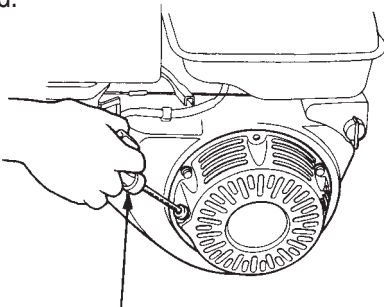

Figure 9. Starter Grip
- Pull the **starter grip** (Figure 9) lightly until you feel resistance, then pull briskly. Return the starter grip gently. Push the clutch lever forward, toward the tow tongue end of the mixer. When engine starts adjust throttle lever so that paddle shaft inside mixer rotates between 30 - 40 RPM's. The number of RPM's will vary depending on engine type and load.